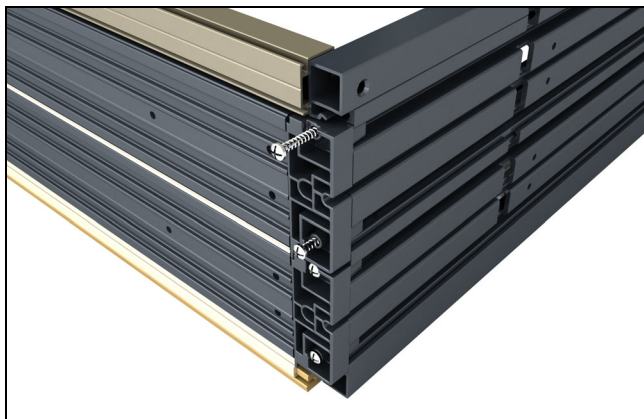

Figure 125
6. Align side jamb to sill by sliding corner keys into sill. Fasten side jamb and sill through corner keys using two #8 x 1 3/4" pan head screws per key. See figure 125.